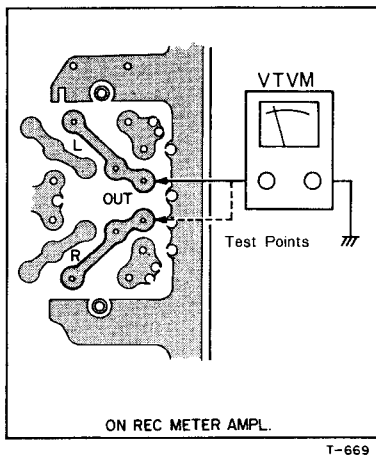

Fig. 8-7 Bias Trap Test Point
2. Connect a VTVM or Oscilloscope from ground to the junction of L-302 and C-312 (L-ch) and from ground to the junction of L-304 and C-330 (R-ch). See Fig. 8-7.